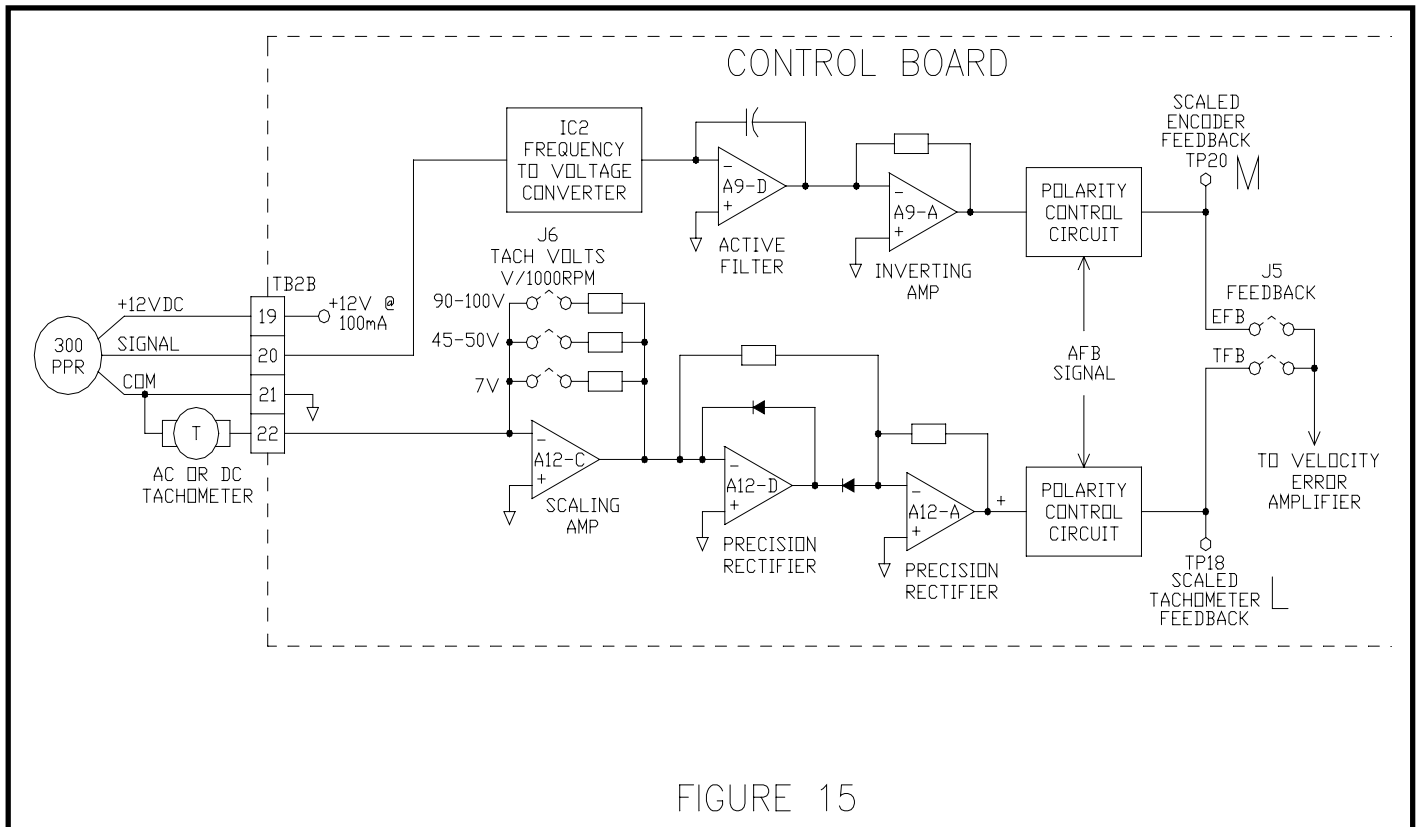

FIGURE 15
Another velocity feedback mode selectable by J5 is TACHOMETER FEEDBACK, TFB. Refer to FIGURE 15. An AC or DC tachometer output can be connected to TB2B-22 and common. The tach voltage is noise decoupled and applied to the A12-C amplifier where the gain is set by jumper J6. The jumper is set to scale the full speed tach voltage to 5 VDC. Following the scaled signal, A5-B and A5-A form a precision rectifier circuit which always keeps the output polarity positive regardless of input polarity. The armature feedback signal is used to control the polarity of the tachometer signal by way of a polarity control circuit. Refer to SECTION 6.11 for a description of this circuit. The output connects to jumper J5 and can be measured at TB18 (L).
A 12 VDC 300PPR encoder connected to TB2B-20 can be selected by J5 in the EFB position – reference FIGURE 15. 1750 RPM equates to an 8750 Hz input that is processed by IC2, a frequency to voltage converter. IC2 sources a current signal into A9-D, an active filter circuit, then through an inverting amplifier, A9-A. Just as above, the armature feedback signal controls the polarity of the encoder feedback by way of a polarity control circuit. The output, which measures 5 VDC at TP20(M) at 1750 RPM, connects to jumper J5.